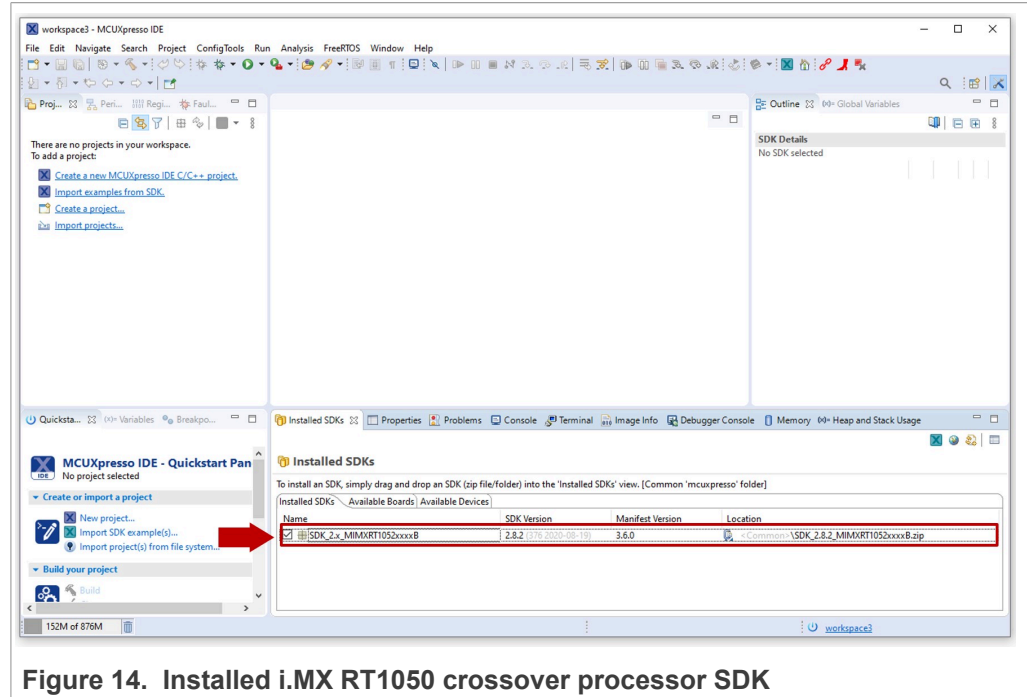

Figure 14. Installed i.MX RT1050 crossover processor SDK
- The i.MX RT1050 crossover processor SDK should now be listed in the **Installed SDK** tab like Figure 14.